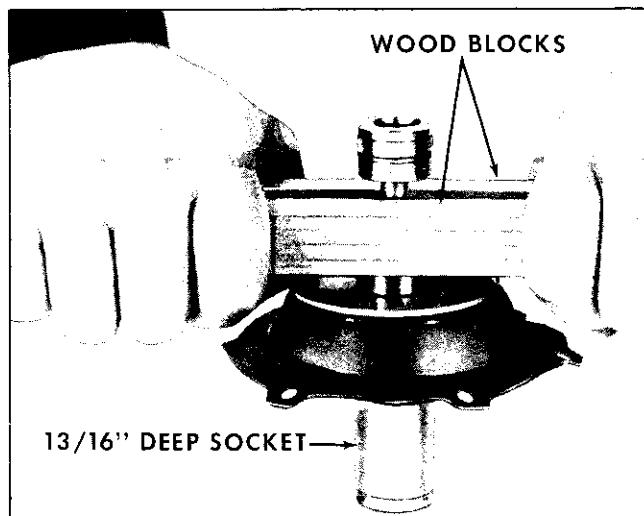

Fig. 4-24 Installing Diaphragm Retainer
1. Install new corprene washer, old plate (unless damaged), new diaphragm (with outer lip toward second stage of piston) and second plate (Fig. 4-24).